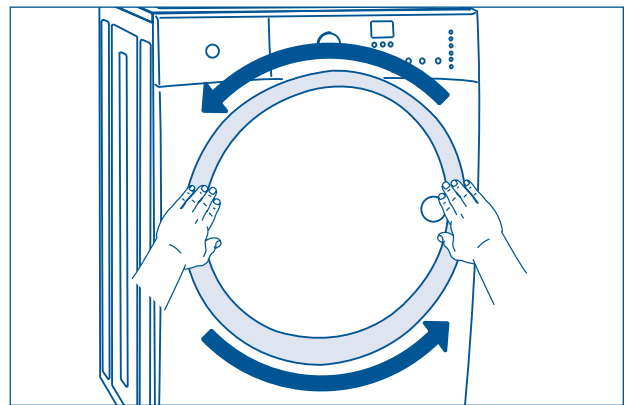

Figure 2-18.
4. Rotate the door trim approximately  $\frac{3}{4}$ " counter-clockwise and pull it away from the front of the door. (See Figure 2-18)